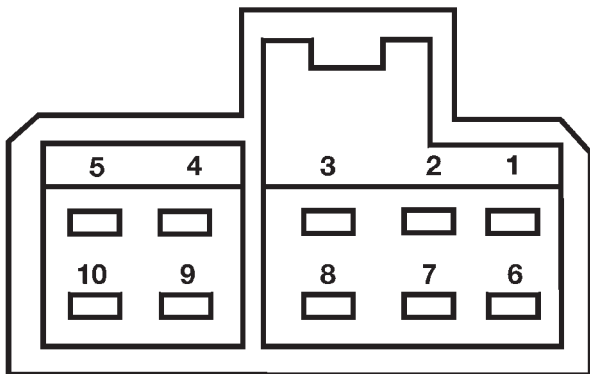

Fig. 8 Ten-Way Power Seat Switch Continuity
(3) Use an ohmmeter to test the continuity of the power seat switch in each switch position. See the Power Seat Switch Continuity chart (Fig. 7) or (Fig. 8). If OK, refer to **Power Seat Track** or **Power Seat Recliner** in the Diagnosis and Testing section of this group. If not OK, replace the faulty power seat switch unit.